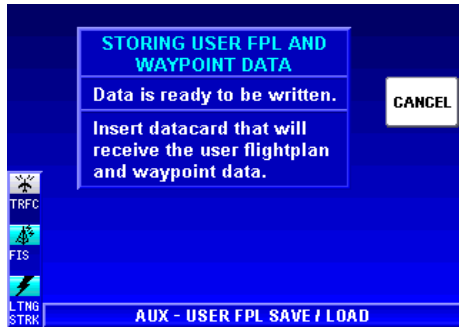

Figure 1-189
- When Figure 1-189 is displayed, insert the datacard to which the data will be copied.